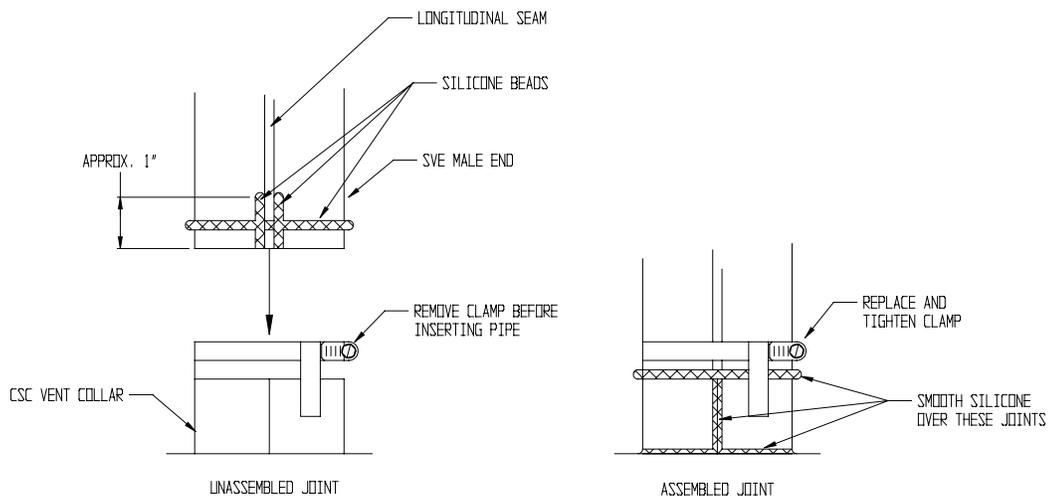

FIGURE 6.16: Z-VENT III CONNECTION TO VENT COLLAR
- d) On the male end of the pipe, apply a 1/4" wide bead of high temperature silicone approximately 1/2 inch from the male end of the pipe. Apply 1/4" beads of silicone along both sides of the longitudinal seam (Fig. 6.16).
- f) Apply an additional bead of silicone over the outside of the joint and smooth out. Also apply silicone over the seams in the collar (Fig 6.16).